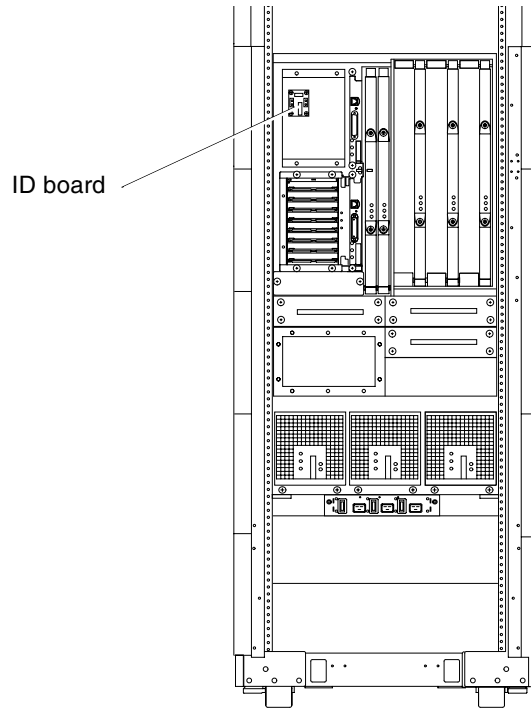

FIGURE 12-40 Removing the ID board From the Centerplane—Sun Fire 4810 System
5. Reaching into the opening created by removing the I/O assembly, grasp the ID board by the edges and remove it from the centerplane (FIGURE 12-40).
2. **Reach into the opening created by removing the I/O assembly and connect the ID board to the connectors on the centerplane (FIGURE 12-40).**